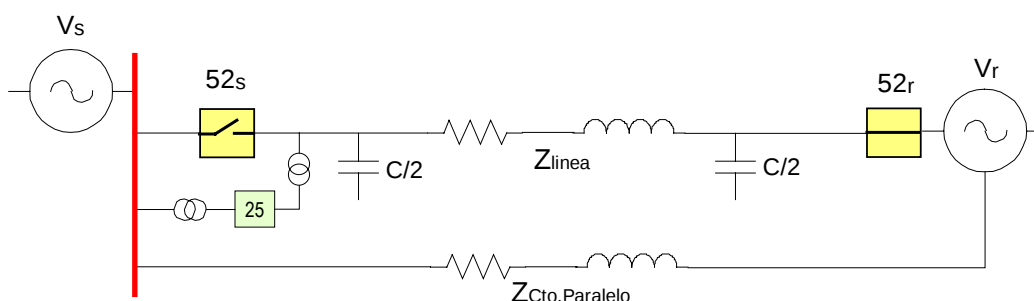

Figure 1
Synchronism check (25) is defined as the comparison of the voltage difference of two circuits with different sources to be either linked through an impedance element (transmission line, feeder, etc.), or connected through parallel circuits of defined impedance (Figure 1). The voltage comparison between both sides of a breaker is performed before closing the breaker, in order to minimize internal damage that could occur due to the voltage difference, both in magnitude and angle. This is extremely important in steam generating plants, where reclosing output lines with angle differences could lead to severe damage to the turbine axis.